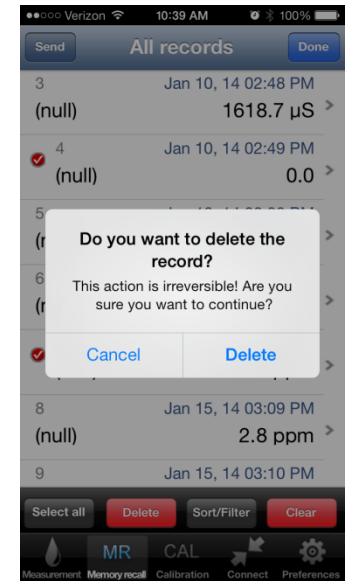

Figure 27
2. A Dialogue box will open (see Figure 27) stating: